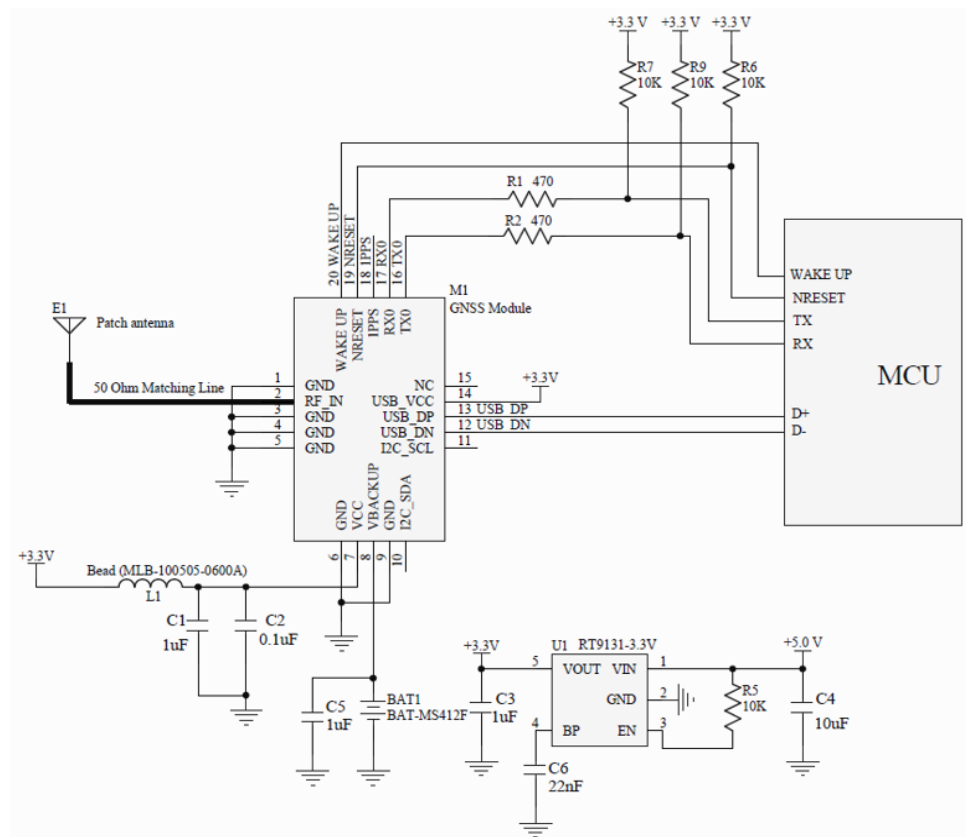

Figure 4-2: Reference Schematic for Using UART0 + USB
2. UART0 + USB—both interfaces can support NMEA output. Refer to Figure 4-2.